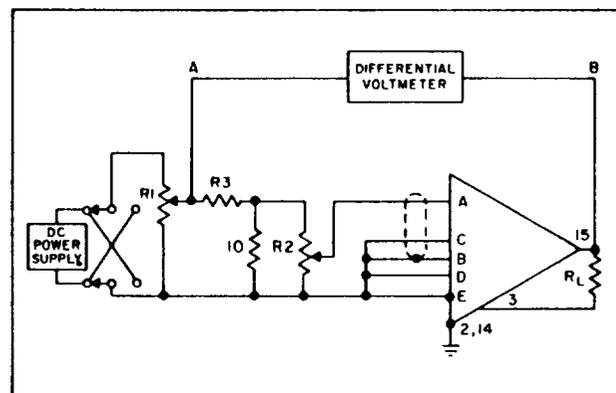

Figure 6-3. D-C Gain Linearity Test Circuit ($G < 1$)
- 1) Connect the amplifier as shown in Figure 6-3. Use a well regulated d-c power supply capable of supplying at least 2.5 volts. R1 and R2 should be 1000 ohm, multiturn potentiometers to provide adequate resolution. Select R3 to provide the necessary attenuation at the desired gain setting of the amplifier.